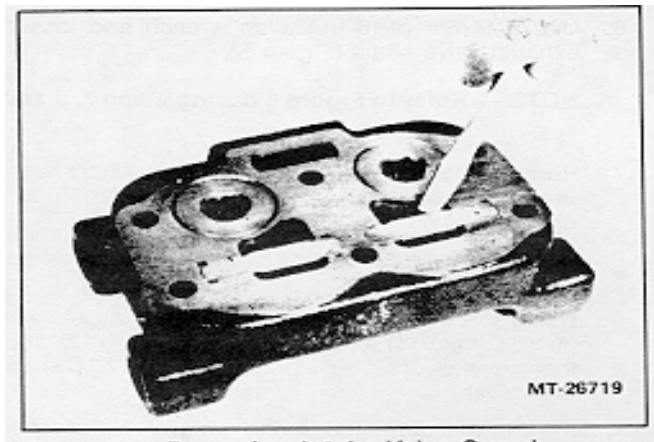

Figure 7 - Removing Intake Valve Guard
9. Use a screwdriver and carefully pry the intake valve guards (Item 11) and intake valves (Item 12) from their cavities. (This is illustrated in Figure 7 ) Discard the valves.